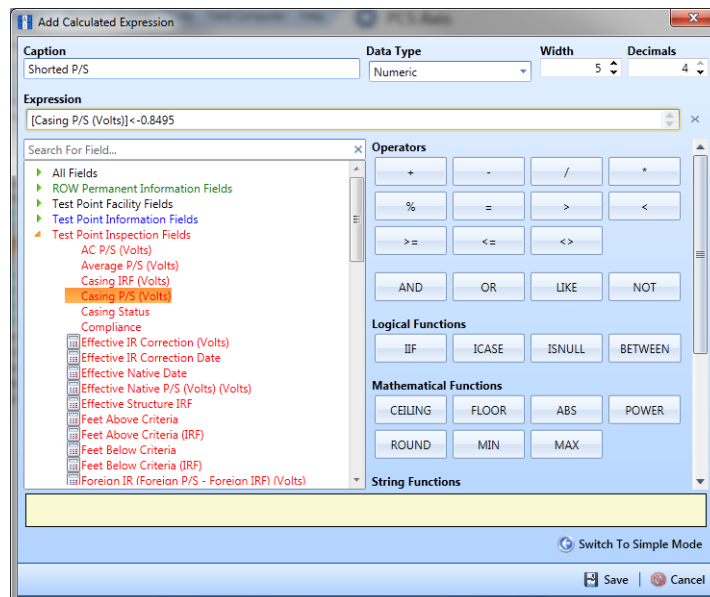

Figure 3-35. Add Calculated Expression (Advanced Mode)
- 4 Click  **Calculated** in the toolbar to open the *Add Calculated Expression* dialog box. If you want to work with the expression editor in advanced mode, click  **Switch To Advanced Mode** (Figure 3-35).